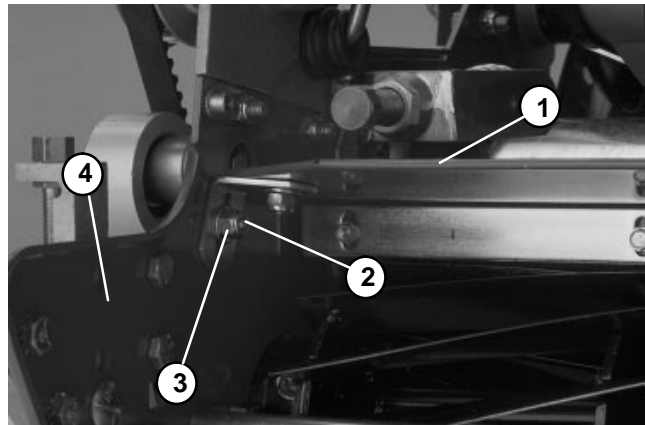

Figure 17
4. Loosen capscrews and nuts securing each end of the shield to the side plates. Adjust shield to the correct height and tighten fasteners (Fig. 17).